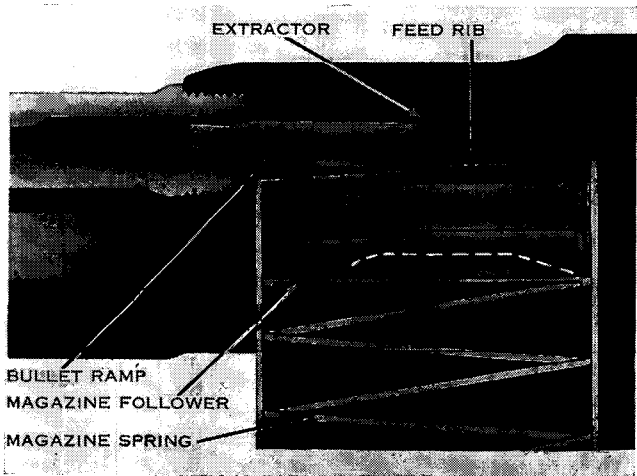

Figure 94. (Superseded) Chambering.
b. As the operating parts move forward, the front of the feed rib contacts the base of the top round in the magazine (fig. 94). As soon as the cartridge moves forward about one-fourth inch, the nose of the cartridge strikes the bullet ramp and is deflected upward toward the chamber. As the cartridge continues forward, its base approaches the center of the magazine